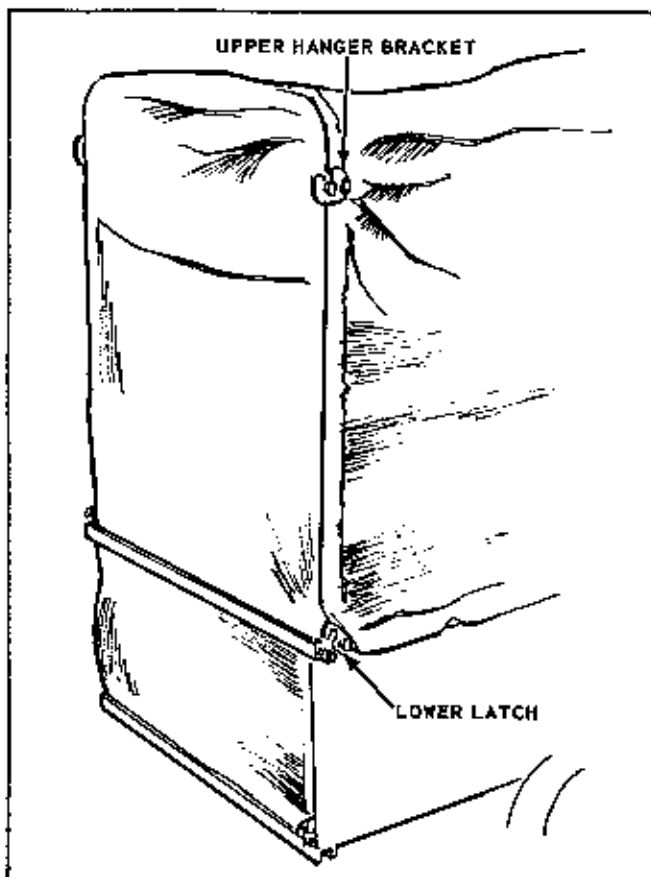

FIGURE 7
F. Attach the upper hanger brackets to the rear support frame as shown in Figure 7. The lower latches on the rear frame support are then attached with the appropriate hardware as called out in the exploded view and parts list. Check to see that the latches are secure, but still free to pivot.